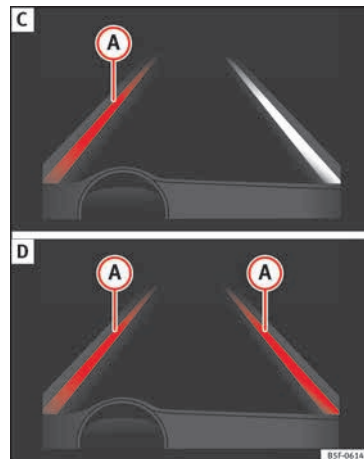

Fig. 206 On the instrument panel display: Indication on the Lane Assist system display (example 2).
- The system is operational, the highlighted line (A) indicates that there was a risk of involuntarily crossing the lane line and that the steering is being adjusted to correct the angle »» Fig. 206 C.
- The two lines (A) light up simultaneously when both lane lines are recognised and the Lane Assist function is active »» Fig. 206 D.